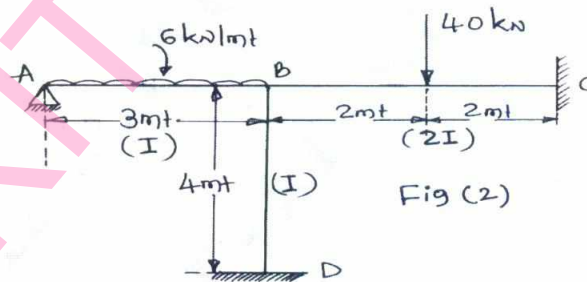

Fig.Q2
- 2 Analyse the frame shown in Fig.Q2 using "Slope Deflection method", and draw BMD and SFD. (20 Marks)